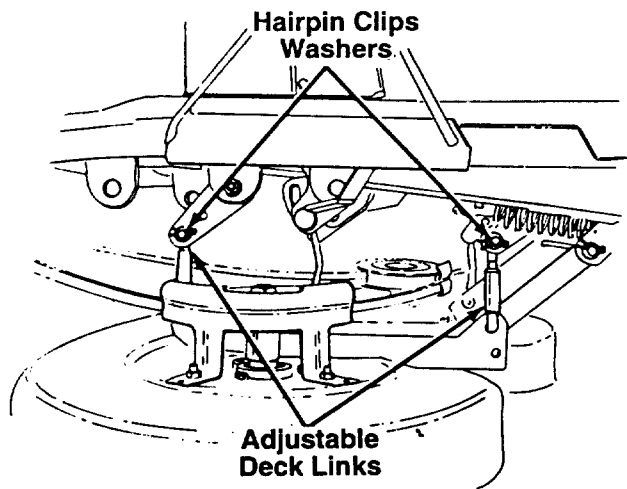

FIGURE 10.
3. Disconnect the adjustable deck links from the deck lift pivot brackets on the left side of the unit by removing the hairpin clips and flat washers. See figure 10.